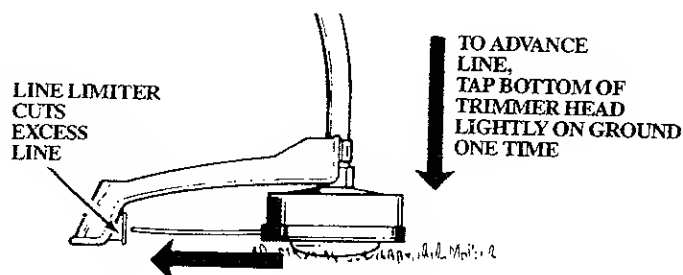

Figure 10
3. Tap the bottom of the trimmer head lightly on the ground one time. See Figure 10. Approximately 2 inches of line will be advanced with each tap.